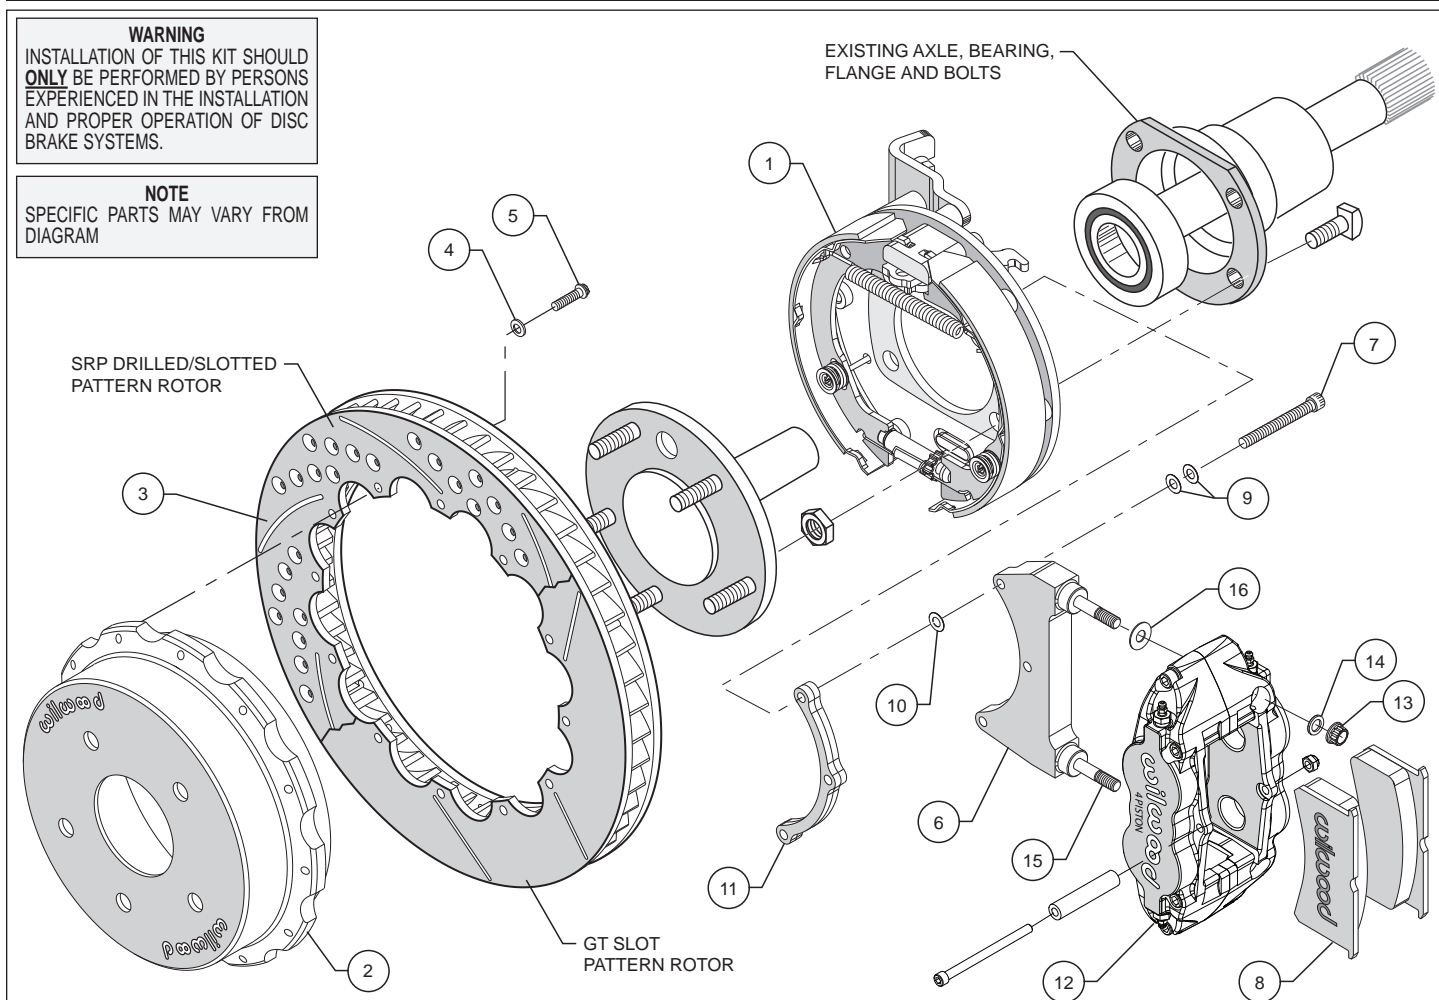

Figure 1. Typical Installation Configuration
- **NOTE:** Please reference the caution statement at the beginning of the assembly instructions. The caliper mounting bracket assembly (6) should be installed first with clean, dry threads on the mounting bolts (7). Install the bracket from the rear side of the bracket kit assembly (1) by sliding bolt (7) through two flat washers (9), bracket (6), shim washer (10) and finally through the spacer (11), see Figure 1. **NOTE:** End of bolt should not exceed inside face of insert. The bracket must tighten squarely against the back side of the bracket kit assembly (1). Inspect for interference from casting irregularities, machining ridges, burrs, etc. Use one thin shim (10) between the bracket (6) and spacer (11) during initial trial fitting.
- Install one washer (16) over each pre-installed stud (15) on the radial mount bracket (6). Slide the caliper (12) in place over the studs and rotor, then install the washer (14) and lock nut (13) to hold the caliper in place. Snug the lock nuts (13) and check that the rotor (3) is centered in the caliper (12). Add or subtract .015" shims (10) as necessary between the caliper mounting bracket (6) and the spacer (11) to center the caliper (12).
- Remove the caliper center bridge pad retainer bolt, nut, and tube from the caliper. Slide the brake pads (8) into place. They should install easily without interference. Check that the outside radius of the brake pad is aligned with the outside diameter radius of the rotor face. Add or subtract shims (16) between the caliper (12) and mount bracket (6) to gain the proper alignment. Reinstall the center bridge pad retainer tube, bolt, and locknut. The locknut should be snug without play in the bolt or tube. Be cautious not to over tighten.
- Adjust the parking brake shoes outward (using a drum shoe adjustment tool available at your local auto parts store) while spinning the hat (2) until a slight drag is felt against the hat/drum. Remove the lug nuts that were holding the hat/rotor in place. Install the wheel and lug nuts. Check to see that the wheel rotates freely without interference.
- Once all clearances have been checked, remove the wheel, caliper, hat/rotor from the bracket kit assembly (1). Secure the caliper mounting bracket (6) to the bracket kit assembly (1) using red *Loctite*[®] 271. Torque bolts (7) to 180 **in-lb**. Reinstall the hat/rotor assembly and again use lug nuts to hold it in place. Lubricate caliper mounting studs and nuts with lightweight oil, reinstall the caliper, torque the caliper nuts (13) to 30 ft-lb.
- **NOTE:** Clevis and cable kits which attach to the parking brake assembly are not included in the Wilwood parking brake kit. Wilwood offers a generic style parking brake cable kit, P/N 330-9371 for this application which can be ordered separately from your local Wilwood dealer or by calling Wilwood customer service at (805) 388-1188.